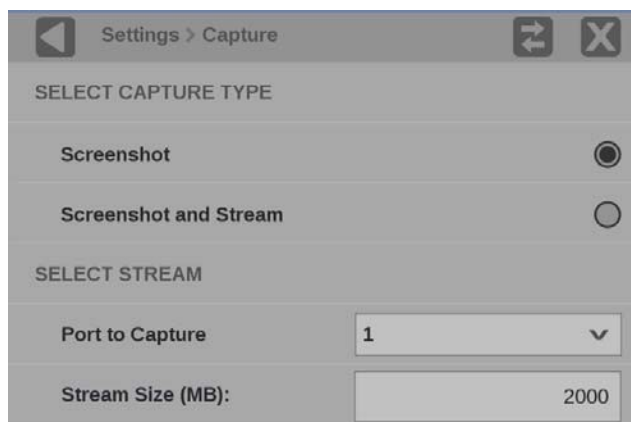

Figure 83: Selecting Screenshot
2. Select **Screenshot** under Capture Type. (See Figure 83.)